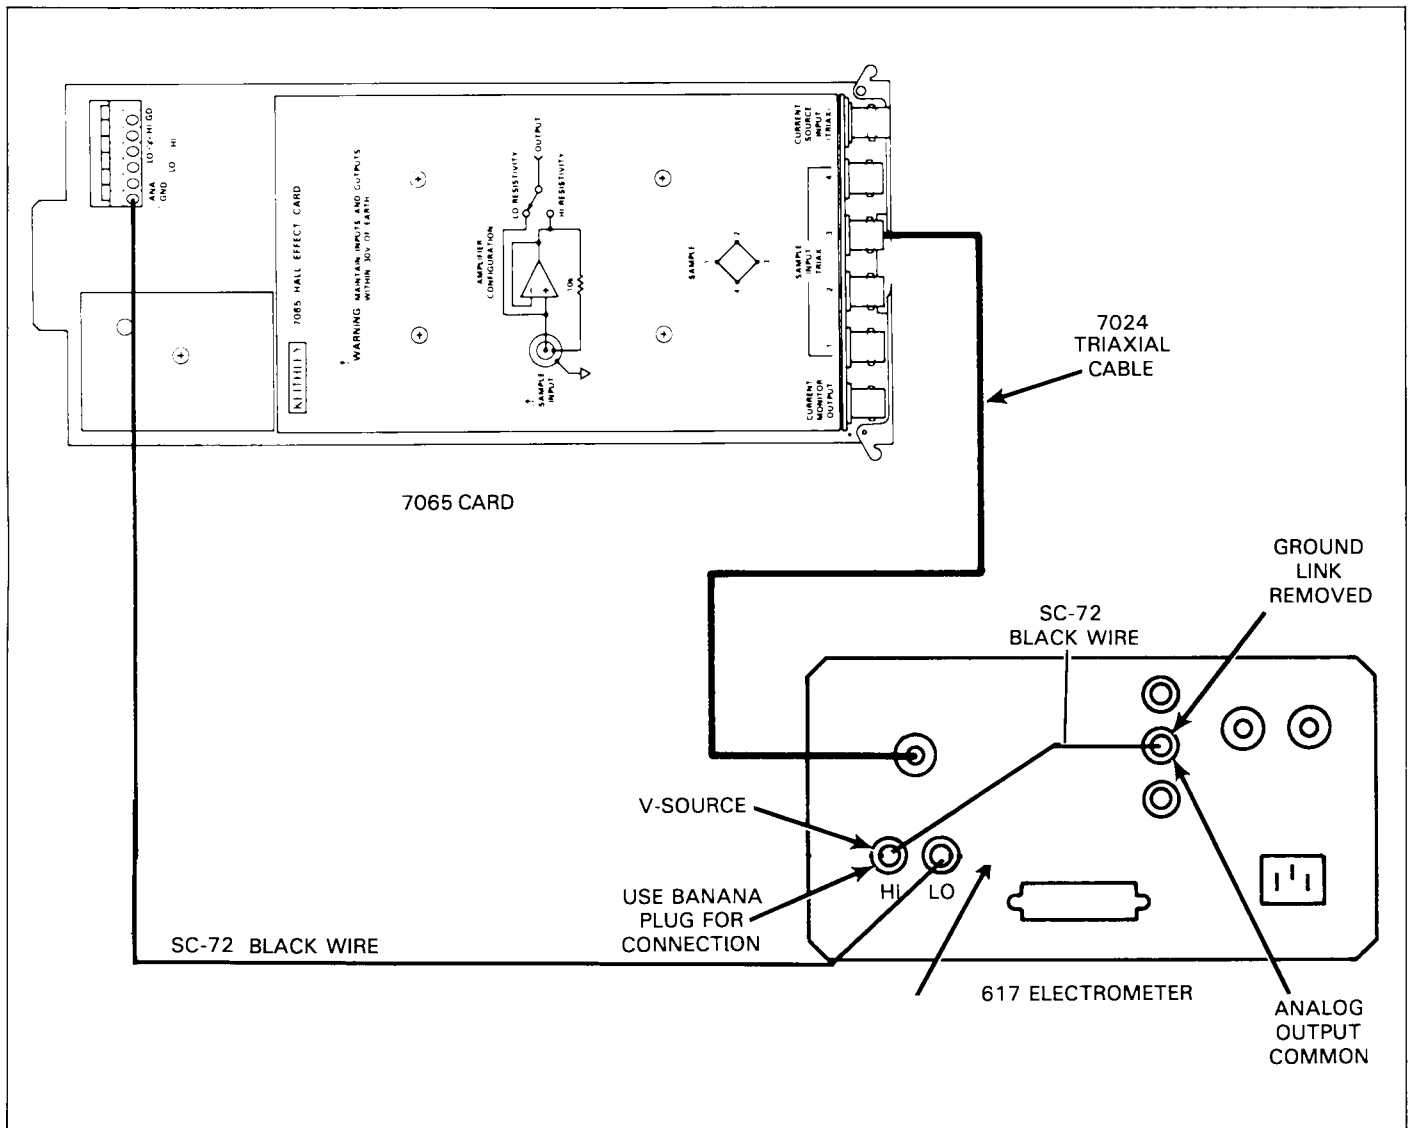

Figure 4-2. Connections for Input Resistance Verification
Connect the Keithley Model 617 Electrometer to the Hall card, as shown in Figure 4-2. The electrometer should be connected to the sample input jack being tested through a 7024 triaxial cable. Connect the voltage source low terminal to the Model 7065 analog ground using a supplied SC-72 black wire. Connect the second SC-72 black wire between voltage source output high and electrometer analog output common. Make sure the ground link is removed.
23. Open crosspoint 5,4 and repeat steps 3 through 22 for the other three sample inputs. The electrometer should be connected to the sample input being tested using the connections shown in Figure 4-2.